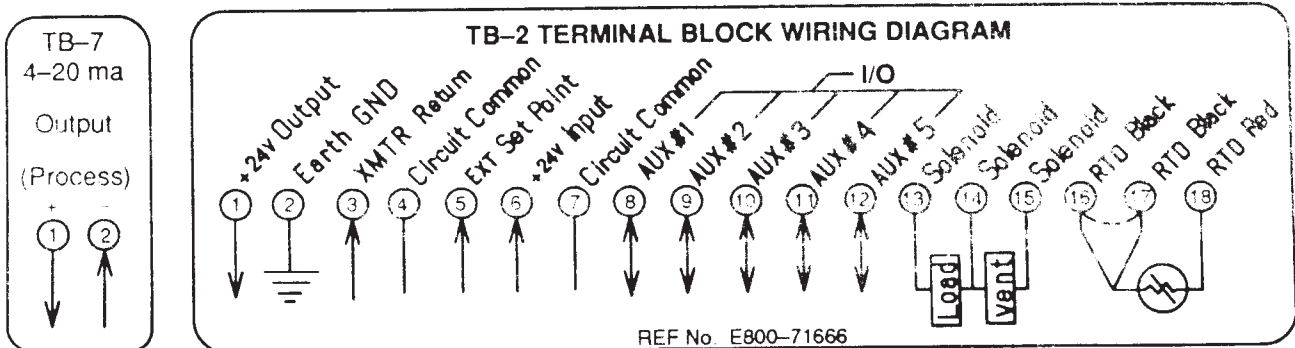

FIGURE 2
1. After mounting the PMC-1 at the desired location, open the cover by loosening 5 screws and the thumb screw. Then remove the field wiring panel by loosening two captive screws. The terminal block wiring diagram shown in Figure 2 appears on the back of the panel. Power and signal lines should be routed through separate conduits to avoid interference. Transmitter or RTD signal lines should use shielded cable grounded at terminal 2 in insure against RF interference.
- b) Check fuse (F1 in Figure 2).